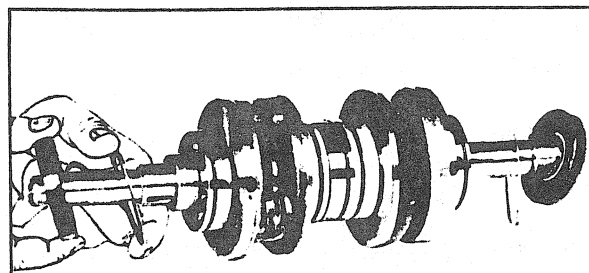

FIGURE 23
- From the crankshaft, remove the (2) oil seals and the (2) retaining washers (fig. 23).